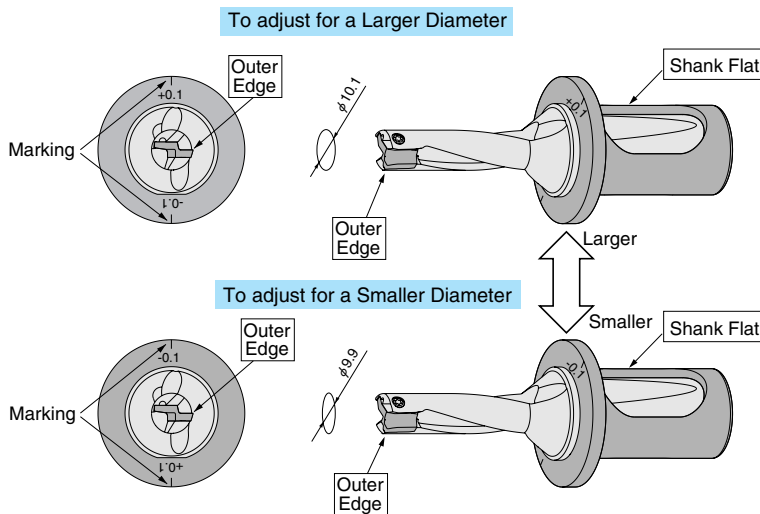

Fig.1 Diameter Adjustment Method (e.g.) φ 10 Drill
- ① Set the outer edge horizontally: 90° to the marking line on the sleeve (Fig.1)
- ② To adjust to a larger diameter, align the +0.1 mark on the sleeve with the flat on the drill shank. To adjust to a smaller diameter, align the -0.1 mark on the sleeve with the flat on the drill shank.
- ③ Tighten the bottom screw firmly which is directly touching the drill. Slightly tighten the upper screw which is directly touching the sleeve.